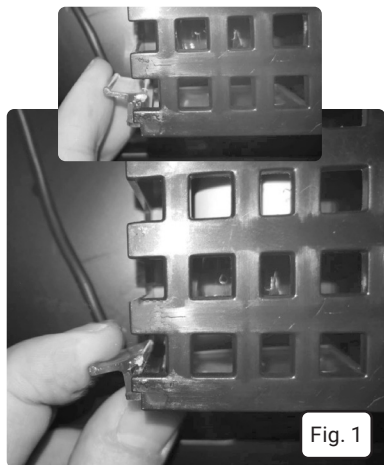

Fig. 1
- Pull down on the clear bulb cover tab locking it into the housing (Fig. 1).